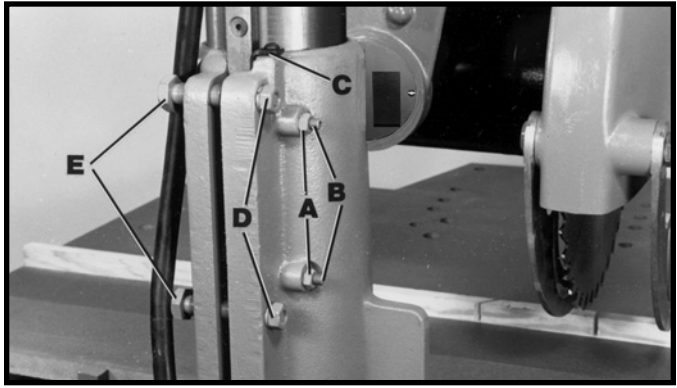

Fig. 31
1. Loosen hex nuts (A) and gib adjusting screws (B) and (C) Fig. 31.
2. Loosen nuts (D) Fig. 31, and adjust bolts (E), so that base wraps around column securely. If column is tight in base, turn bolts (E) clockwise to loosen.
**IMPORTANT:** Turning bolts (E) clockwise will open the base jaws, while turning bolts (E) counter-clockwise and tightening nuts (D) will close the base jaws. Check elevation by turning crank handle, making sure the column moves up and down without binding.
3. Tighten screws (B) Fig. 31, against the column gib until all side motion disappears in over-arm.
4. Securely lock hex nuts (A) while holding screws (B) and tighten screw (C).